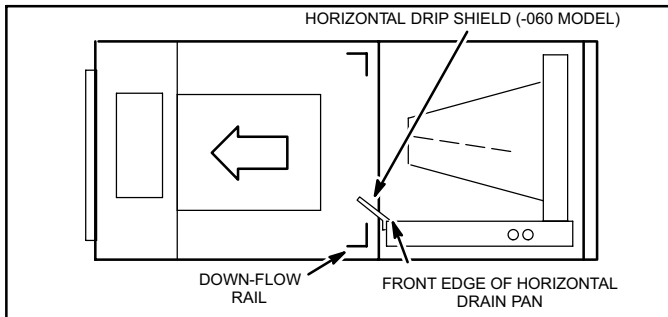

Figure 5. Left-Hand Discharge Configuration
- Step 10. Install the horizontal shield (-060 model) on the front edge of the horizontal drain pan as illustrated in figure 5 on page 6.